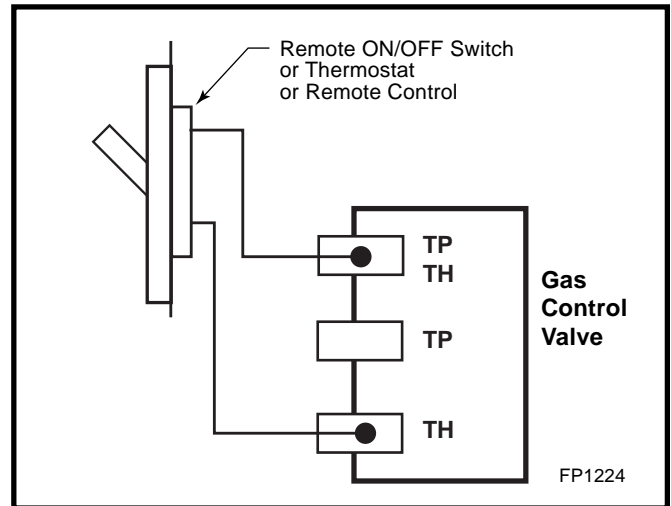

Fig. 6 Remote switch wiring diagram.
3. Connect the other ends of the wire to the gas control valve. (Fig. 6)